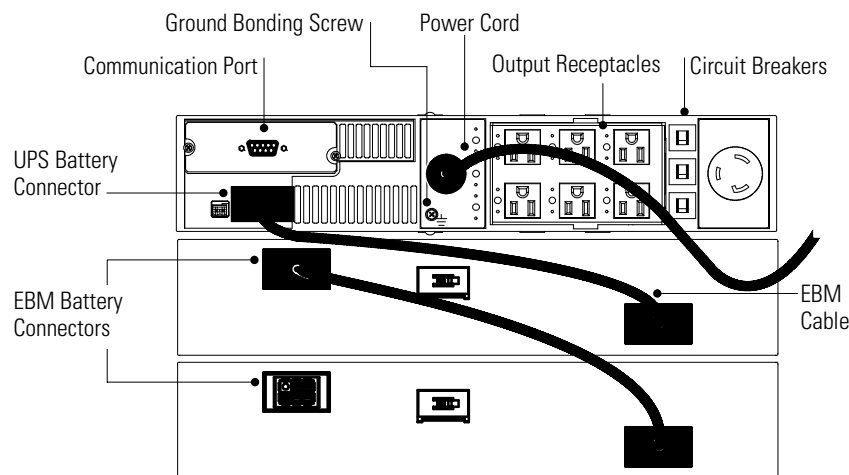

Figure 12. Typical Installation with Two EBMs
The following steps explain how to install the UPS. Figure 12 shows a typical installation only. See “UPS Rear Panels” on page 27 for the rear panel of each model.
2. Plug the EBM cable into the UPS battery connector (see Figure 12).